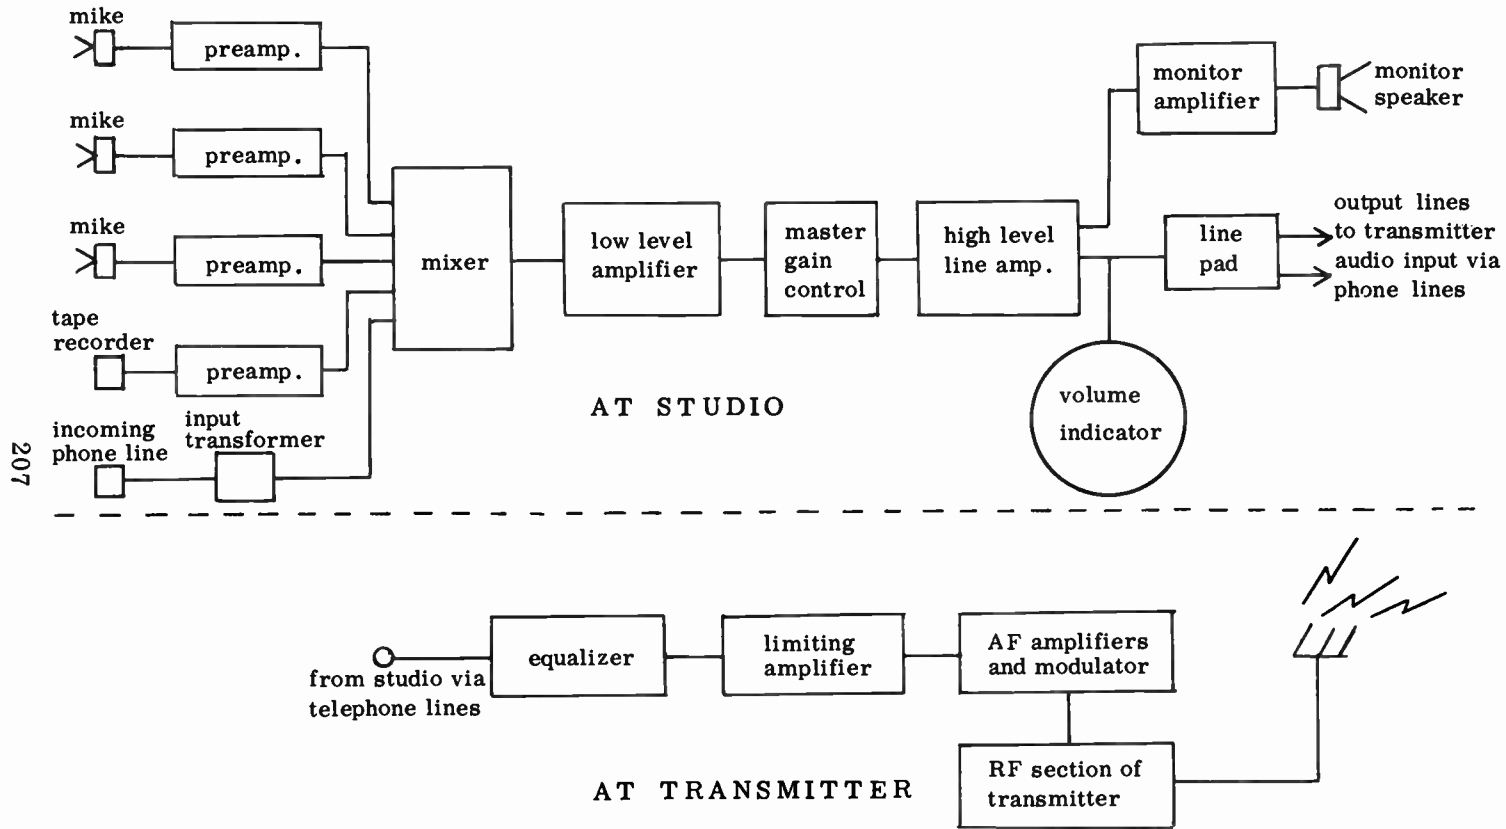

FIG. 11-2. A BASIC BROADCAST AUDIO SYSTEM.
**4 AUDIO BROADCAST SYSTEM.** Fig. 11-2 illustrates a block diagram of the basic audio system that is used in broadcast stations. It is by no means complete or accurate in every detail. It is a simplified version of the system
You will notice that the incoming phone line in Fig. 11-2 does not go to a preamplifier. Instead, it goes to an input transformer. The reason for this is that the amplitude of the incoming phone signal is much higher than the output of the microphones and does not have to be amplified.
There are two types of mixers used; high-level and low-level. In high-level mixing, the outputs of the microphones, etc. are first amplified, then passed on to the mixers to be controlled. This form of mixing is used in Fig. 11-2. In low-level mixing, the outputs of the microphones are first mixed, then amplified. The primary advantage of high-level mixing is that the audio signal is built up before getting to the mixer. The signal is therefore strong enough to overcome the noise that develops when the mixer controls are varied.
Instead of having one large amplifier, the main studio amplifier of Fig. 11-2 is broken up into a low level amplifier and a line amplifier. One large amplifier would be very unstable. The slightest amount of feedback would result in oscillation.
**4 LINE PADS AND ATTENUATORS.** The line pad in the block diagram of Fig. 11-2 is used to reduce the output of the line amplifier to the proper level for transmission over the telephone line. The line pad also isolates the line from the line amplifier while maintaining the correct impedance between the amplifier and the line. Any changes taking place in the line will not be reflected back into the amplifier to affect its operation.
The line equalizer can be placed at any point in the audio program line. However, it is good practice to insert it at the point where the line enters the transmitter's audio equipment. At this point, it is easy to adjust the equalizer, if necessary. (See Fig. 11-2).
**4 LIMITING AMPLIFIERS.** A limiting amplifier is an amplifier whose output cannot be increased over a certain maximum value. A limiting amplifier is used in the audio section of a broadcast transmitter. (See Fig. 11-2). It limits the audio to a value that will not cause overmodulation with its subsequent distortion and interference. Since the limiter is an automatic device that prevents overmodulation, we can use a higher level of audio (just short of overmodulating) and thereby obtain a higher percentage of modulation than we could without a limiting amplifier. The subject of modulation will be fully discussed in Lesson 14.